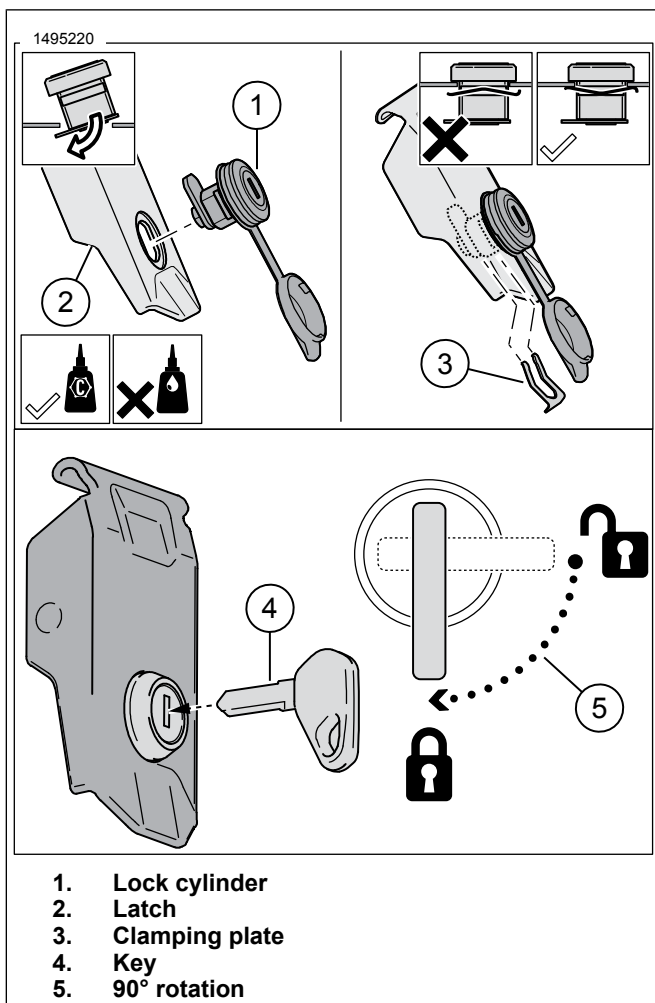

Figure 3. Lock Cylinder Insertion
1. See Figure 3. Insert lock cylinders (1) into latches (2).
2. Secure lock cylinders with clamping plates (3).
3. Insert keys (4) into lock cylinders.